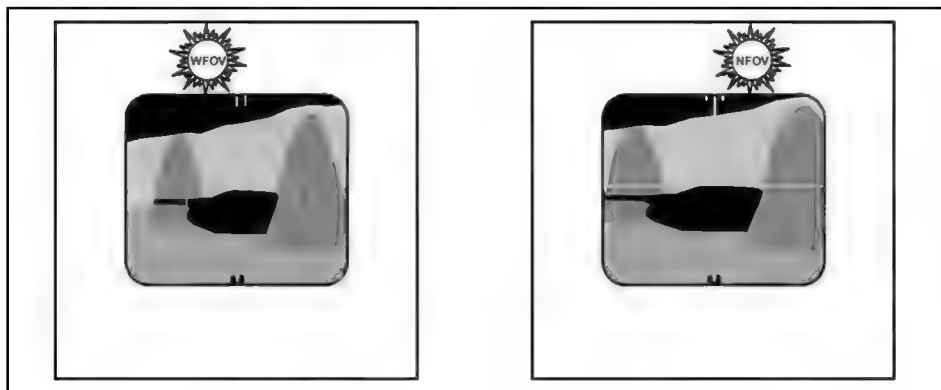

Figure D-2. WFOV or NFOV indicator—flashing.
- a. **Indicator.** This light is green and is a warning indicator (Figure D-2).